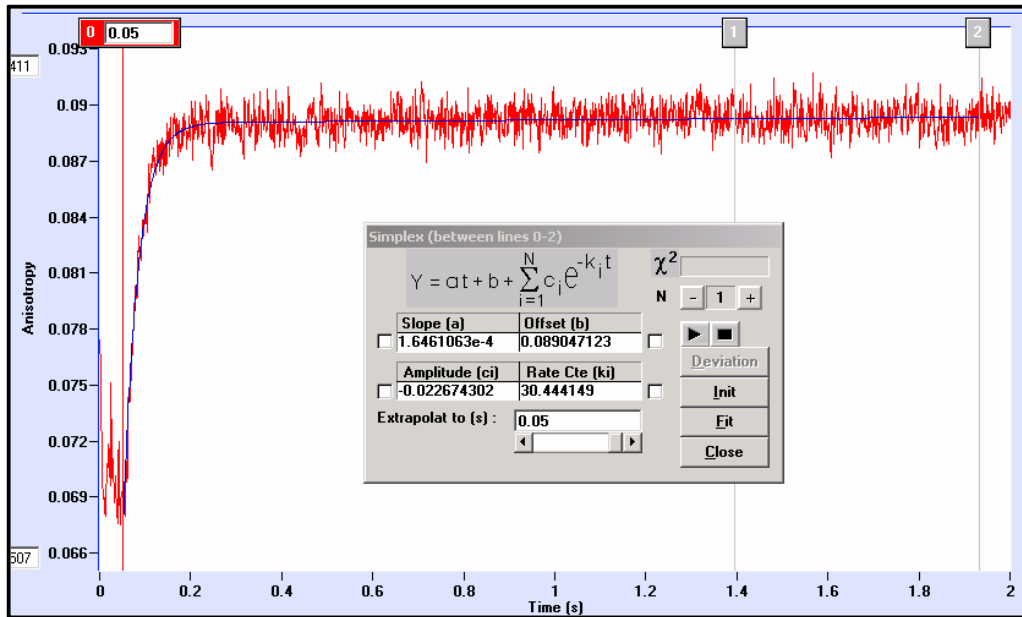
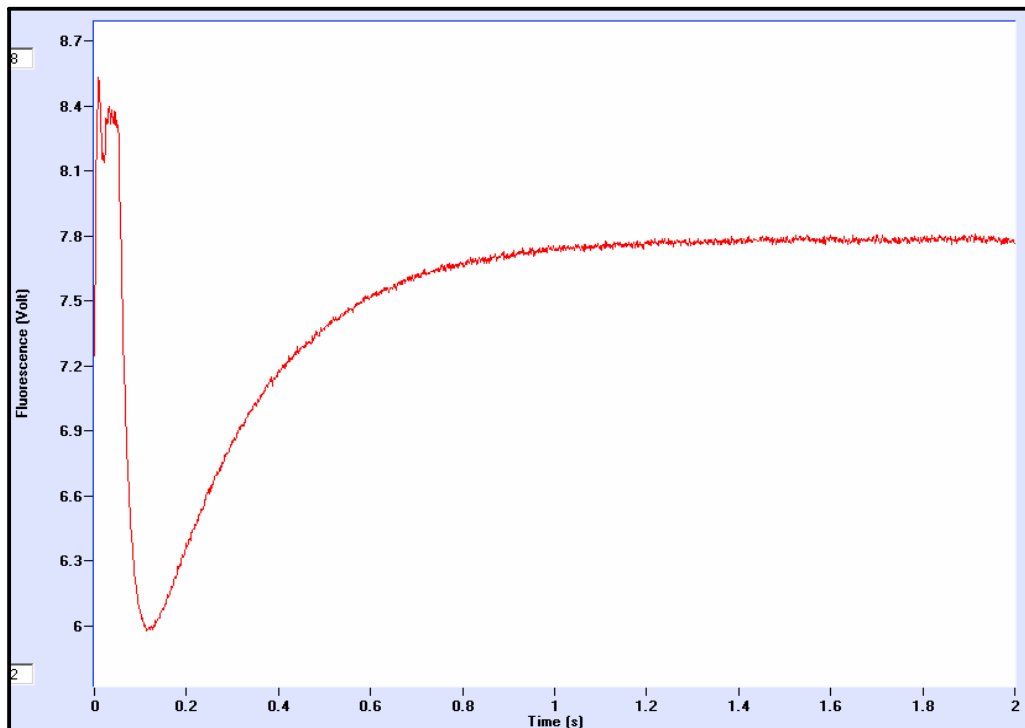

Figure 4 : lysosyme refolding followed by anisotropy
Figure 5: lysosyme refolding followed by fluorescence
- An accumulation of 16 shots is done, results are presented in figure 4 (anisotropy result) and in figure 5 (fluorescence result).